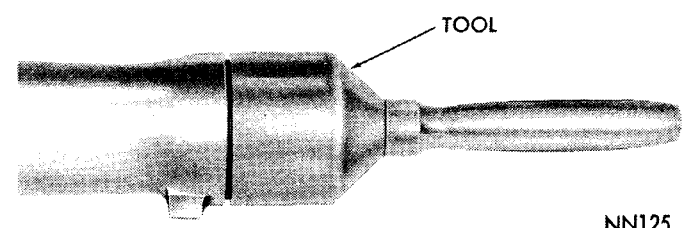

Fig. 37—Installing Extension Housing Seal
(d) To install a new seal, position seal in opening of extension housing and drive it into housing with Tool C-3972 (Fig. 37).
(4) To install a new seal, position seal in opening of extension housing and drive it into housing with Tool C-3972 (Fig. 37).
(5) Carefully guide front universal joint yoke into extension housing and on mainshaft splines. Connect propeller shaft to rear axle pinion shaft yoke aligning the marks made at removal.
(6) Fill transmission to level of fill plug (Refer to Lubrication Section).